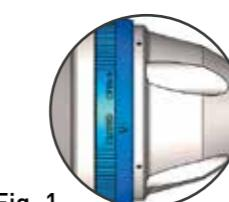

Fig. 1
2. Turn the blue ring to OPEN (Fig. 1).